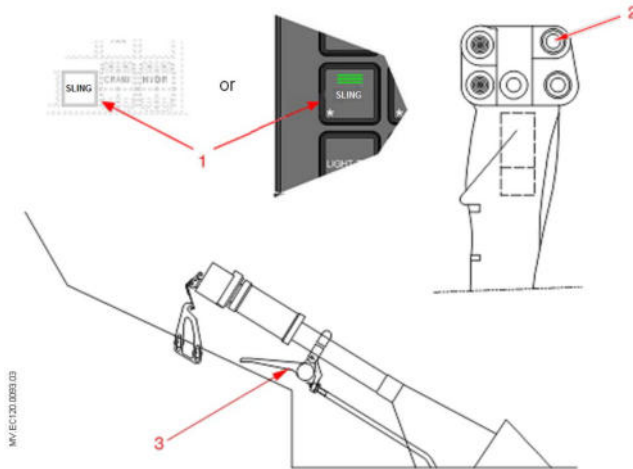

Figure 2: Cargo sling controls
- A control system is provided for the pilot (Figure 2):
- A [SLING] pushbutton (1) located on the LACU, for powering on the installation,
- A release control (2) on the cyclic grip (electrical mode),
- A release handle (3) located under the collective lever (mechanical mode).